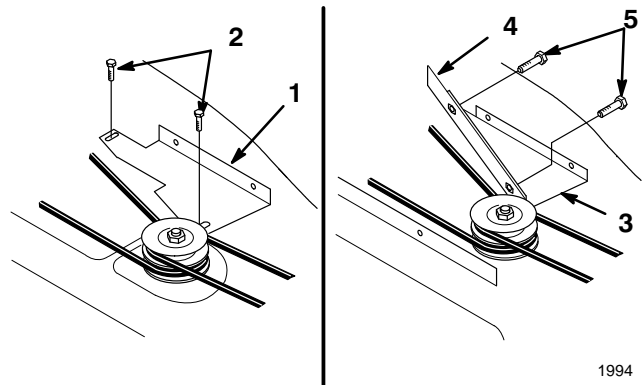

Figure 18
- On 42" mowers, mount the belt cover using (2) 1/4 x 1/2" (13 mm) thread forming flange screws in holes used by original cover (Fig. 18).
- On 48" mowers, mount the belt cover bracket to the front rib on the top of the mower using (2) 1/4 x 3/8" (10 mm) flange screws (Fig. 18).